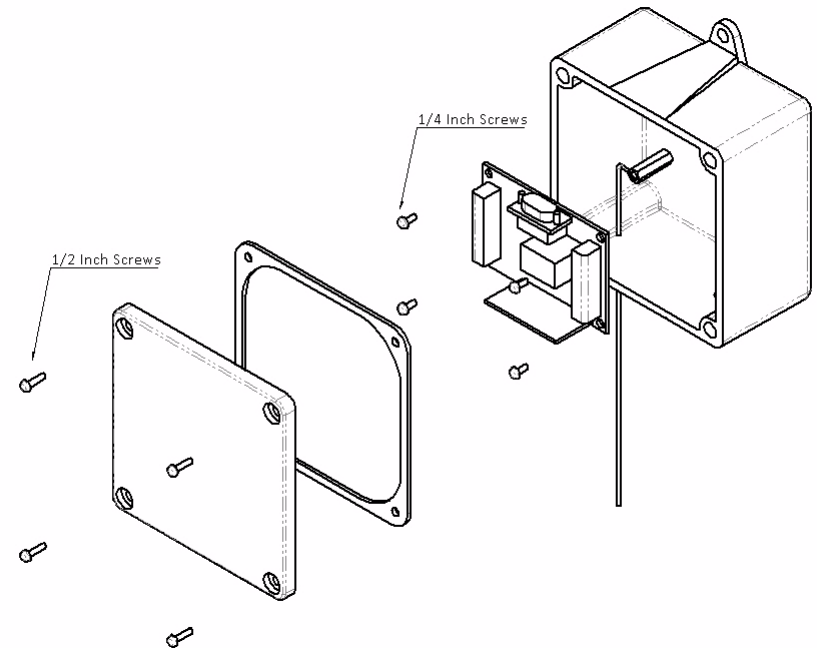

Figure 1 Wireless Receiver Assembly Diagram
1. Connect Wiegand Port 1 or/and 2 as shown in Figure 1